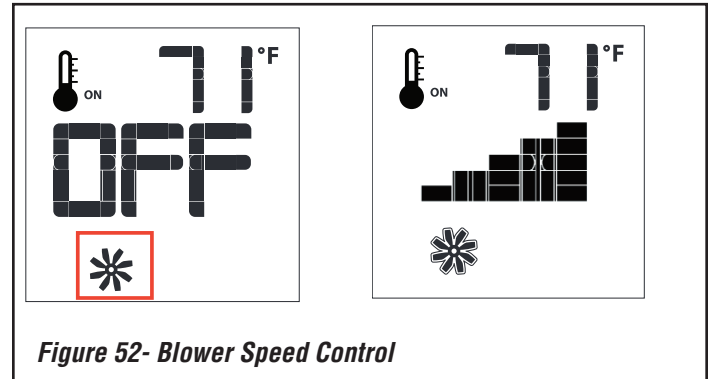

Figure 52- Blower Speed Control
The fireplace is equipped with optional hot air circulating blowers. The speed of the blowers can be controlled by the Proflame system. The blower speed can be adjusted through six (6) speeds. To activate this function use the Mode Key, see **Figures 41 and 42**, page 46, to index to the blower control icon, see **Figure 52**. Use the